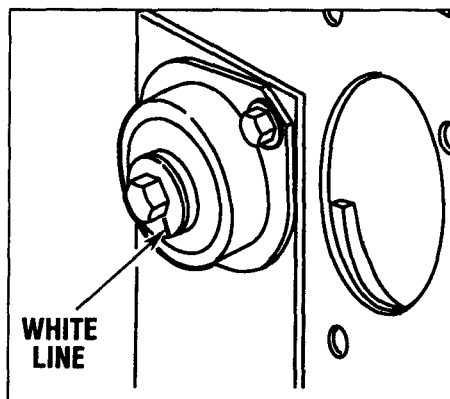

Figure 4-2: Check white line on bearing collar (Chipper Chute removed for clarity).
**LOOK** — The bearing collar on the chipper chute side of the unit has a white line painted on it (Figure 4-2). When this white line is stationary, the cylinder assembly has stopped rotating.